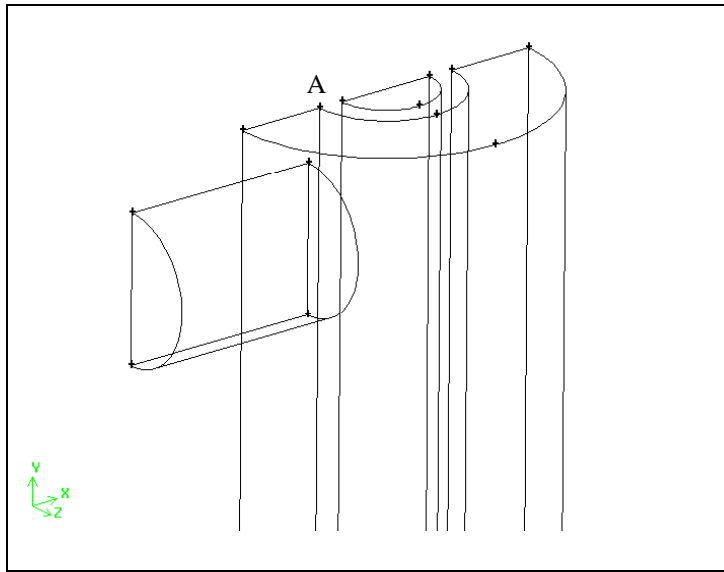

Figure 7-21: Vertex to be selected to align the brick
- c) Select the vertex marked A in Figure 7-21. The vertex is on the end of the long thin pipes near the smallest cylinder.